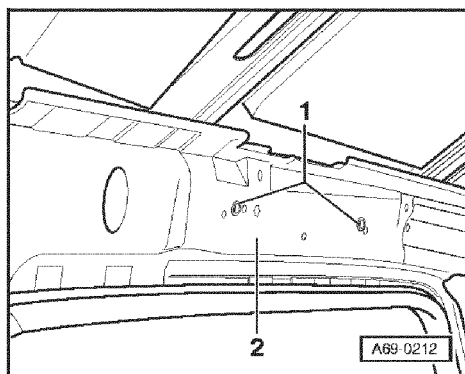

Fig.6 Checking contact surface for head airbag
- Before installing the head airbag module, check the contact surface for the head airbag at the threaded bushings on the roof grab handle => Fig. 6